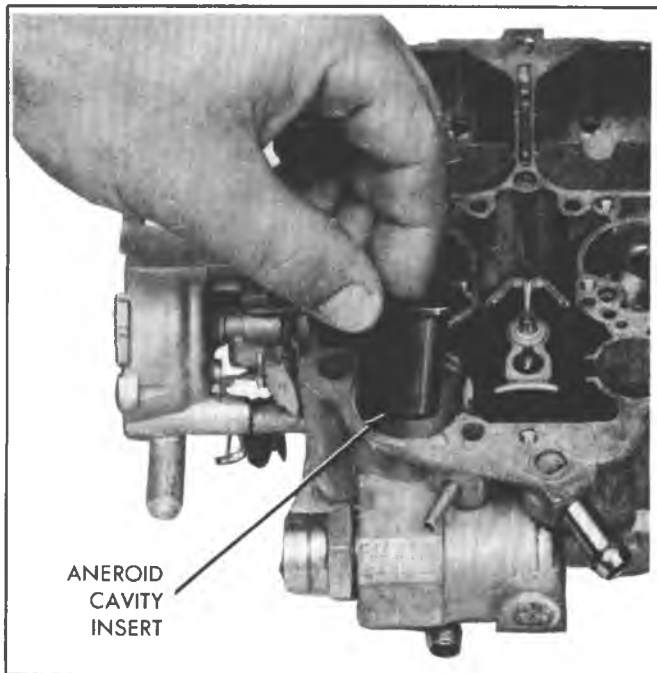

Fig. 6C4-36--Removing Aneroid Cavity Insert
3. Remove the two conventional retainers, retainer with tab, (Location A, Fig. 6C4-39), choke cover gasket, and choke cover assembly from choke housing.